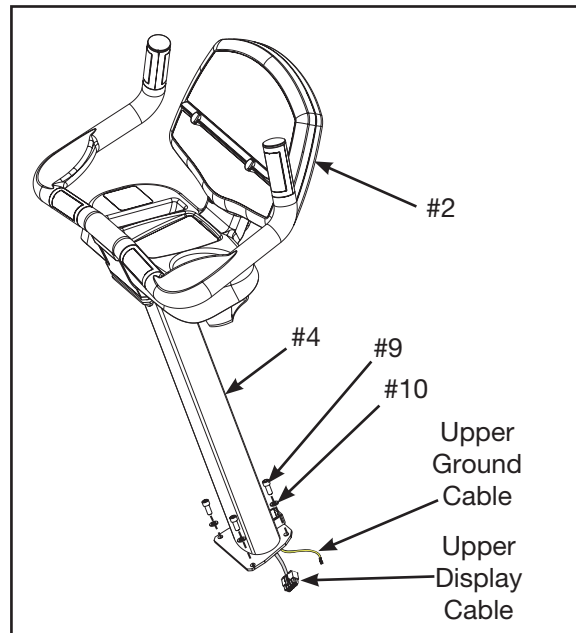

Figure 4
- B. Locate the upper display cable and ground wire. Insert the cables into the upright tube (#4). Pull cables through tube to exit at bottom. See Figure 4
- A. Locate the four screws 5-16-18 X .75 (#9) and washers 5-16" (#10) . See Figure 4.